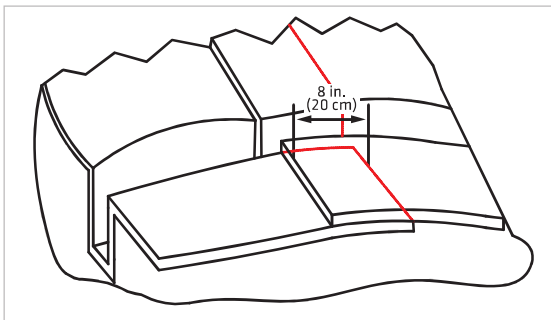
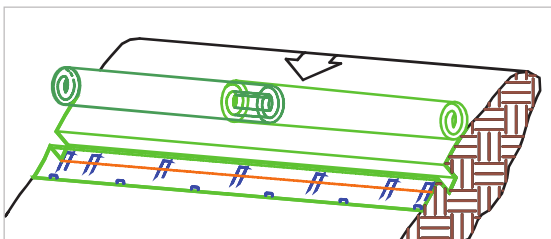

FIGURE 3A
FIGURE 4
4. Begin rolling the SediMax-FR™ from its upper edge (upslope edge) into a consistent roll diameter until the roll is located in the anchor trench. If a larger diameter structure is desired, place additional organic material (i.e., straw, leaves, pine needles or lawn clippings) across the entire width of the SediMax-FR prior to rolling. (Figures 3A and 3B) (See Figure 4 for seaming of adjacent SediMax-FR rolls.)